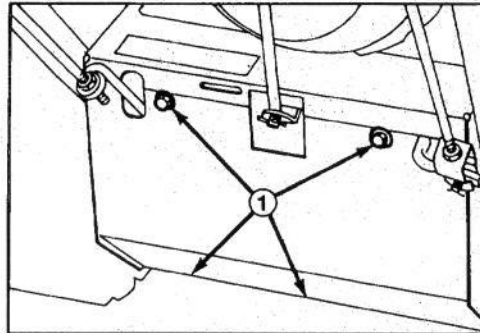

Figure 15
- Tip snowthrower onto auger housing and block it so it cannot fall. Now remove four thread forming screws holding bottom cover in place, and slide shield away from unit (Fig. 15).